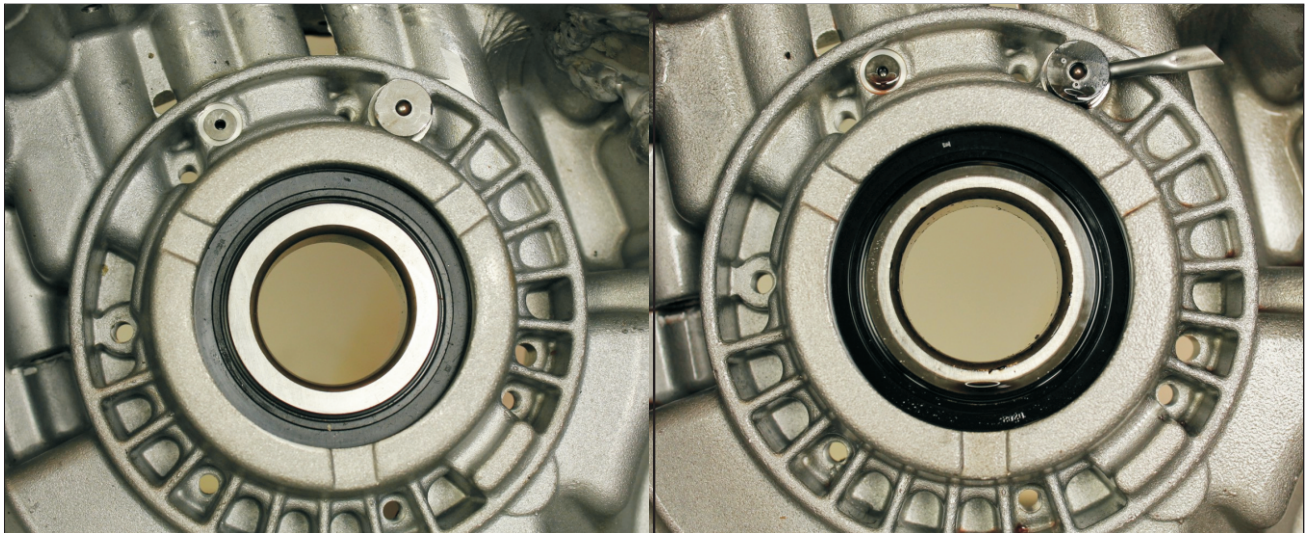

Figure 1
2. Another reason could be that the Primary Pulley Pitot tube mounted inside the transmission was damaged during disassembly or reassembly. Figure 1 shows a broken Pitot on the left and a good Pitot tube on the right.